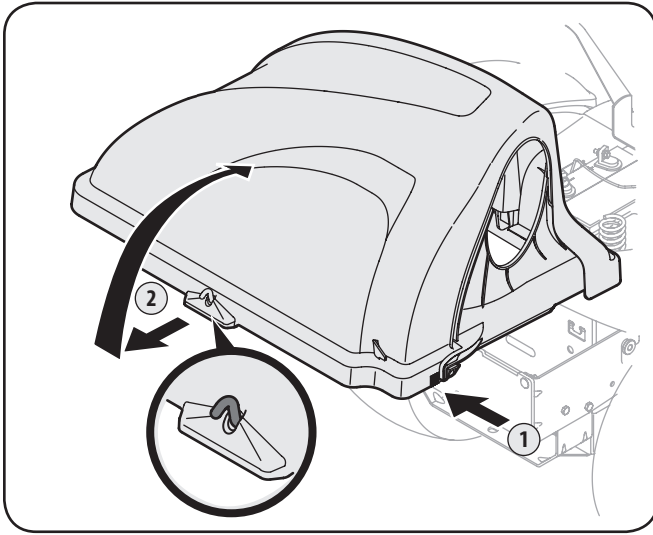

Figure 5-1
2. Open the grass bag cover by pushing in on the rear, right-side tab with your right hand, as seen in 1 of Figure 5-1, and lifting the cover with your left hand in the center rear of the bagger cover, 2. Do not remove the chute tube assembly from the tractor.